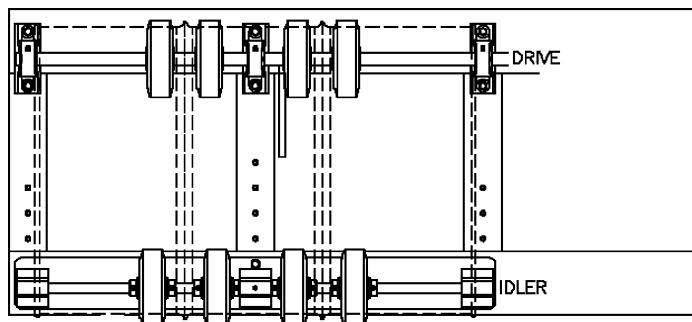

Figure 1
A. ASSEMBLY AND INSTALLATION INSTRUCTIONS: Adjust drive and idler wheels to your particular drum. With provided 1/8" allen wrench, loosen the two set screws found in each drive wheel hub and the set screw in each collar surrounding the idler wheels. Wheels should be positioned to support the drum at its strongest point; adjacent to ribs (see Figure 1). This configuration will also prevent the drum from moving axially. Tighten set screws.
1. A variety of drum diameters can be accommodated by adjusting the idler plate assembly toward the drive side for smaller diameters and away from the drive side for larger diameters. The plate may be adjusted to allow drive shaft spacing from 8" to 18". It is preset to the second (outer) set of holes for use with standard 55 gallon steel drums. To adjust, remove the three idler plate bolts (item 8) and slide the idler plate assembly (item 7) to the proper set of mount holes and refasten the mount bolts.